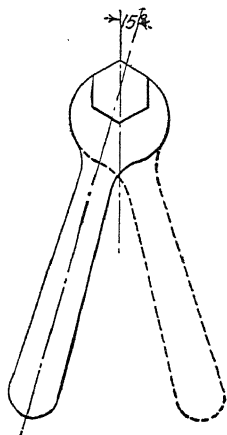

FIG. 212.
7. Oftentimes bolt heads or nuts are so placed in a machine that a movement of the wrench through 90 deg. (for a square nut) or through 60 deg. (for a hexagonal nut) is impossible owing to obstructions. This difficulty is overcome by using for the square nut a  $22\frac{1}{2}$ -deg. angle wrench and for a hexagonal nut a 15-deg. angle wrench. By turning the wrench over each time it is applied the nut may be turned completely around when the swing of the handle is limited to substantially half that required for a straight wrench. This is illustrated in Fig. 212.